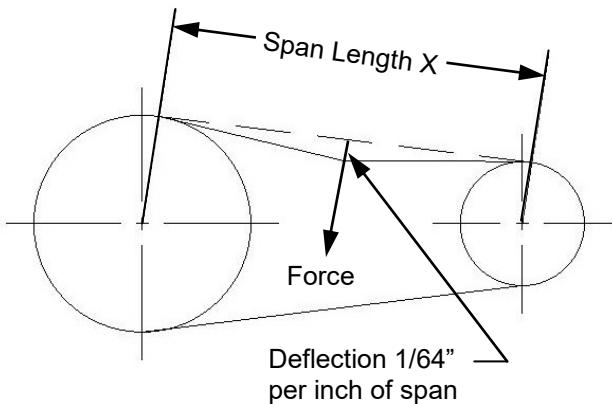

Figure 17- Belt Tensioning
- Measure span length "X" shown in Figure 17.